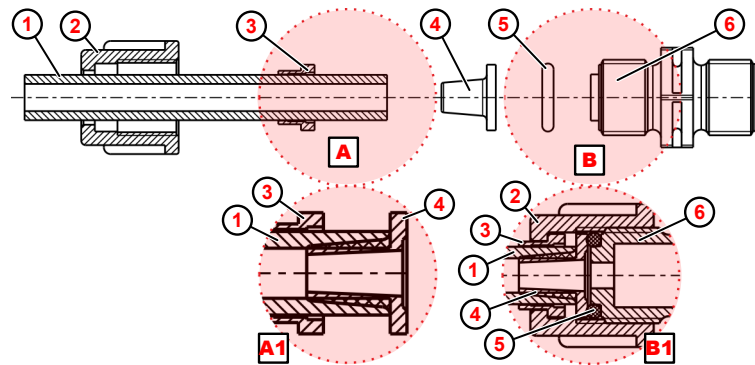

Fig. 6: Pipe-to-hose connection with tapered part
1. ➔ Cut off the hose with a straight cut (Fig. 6, ①).
2. ➔ Slide the union nut ② over the hose ①.
3. ➔ Slide the clamp ③ over the hose ①.
4. ➔ Slide the hose ① onto the tapered part ④ up to the stop collar (for details, A1).
5. ➔ Slide the tensioning piece ③ towards the tapered part ④ until you feel resistance.
6. ➔ Place the o-ring ⑤ in the groove of the suction or pressure valve ⑥.
7. ➔ Tighten the union nut ② (for details, see B1).